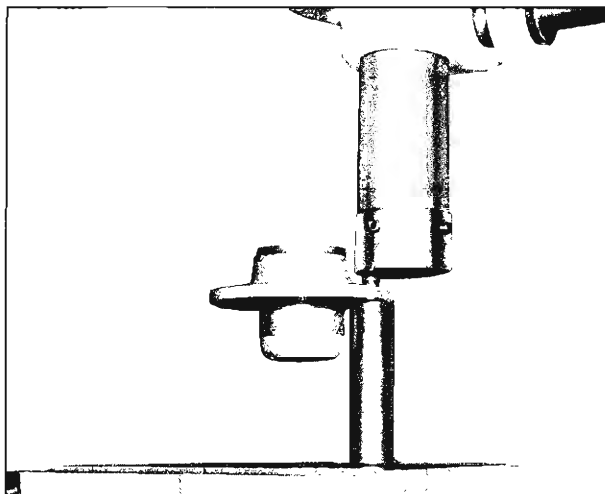

Fig. 9—Pressing Front Hub Bolts
3. Press bolt into flange until head is fully seated against hub flange (fig. 9).